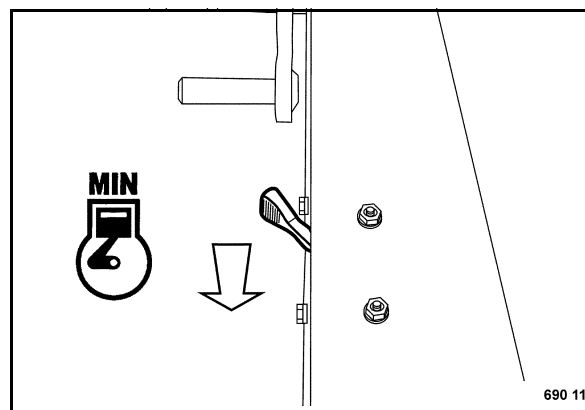

Fig. 12
- Set the throttle lever (Fig. 12) to position "MIN" (idle speed).